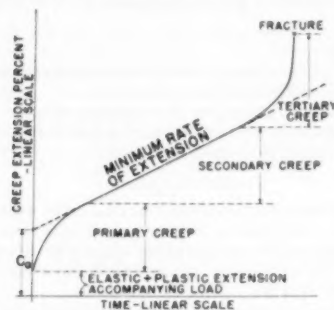

FIG. 5 CREEP CURVE AT CONSTANT TEMPERATURE AND LOAD
**Characteristics of Creep.** With this brief background, let us consider the characteristics of creep phenomena in some detail. The characteristic form of the creep curve at constant load and temperature is shown in Fig. 5. On application of the load there is an immediate elastic extension along with some plastic extension. The further course of deformation then characteristically is such that the rate first decelerates, then remains substantially constant and minimum, and finally accelerates to fracture, or as it is frequently called, rupture. These several periods are often labeled primary, secondary, and tertiary creep, as indicated. While the figure illustrates the idealized
Fig. 5 also illustrates the two most important considerations in the choice of working stresses:
The relation between deformation and time is somewhat more difficult to evaluate, owing to the complex shape of the creep curve. What is probably the best means will be described. As evident in Fig. 5, the total deformation at any time earlier than the beginning of tertiary creep is given by the summation of the quantity  $C_0$ , which is the intercept of the minimum rate slope on the ordinate axis, and the product of the minimum creep rate and the time, or